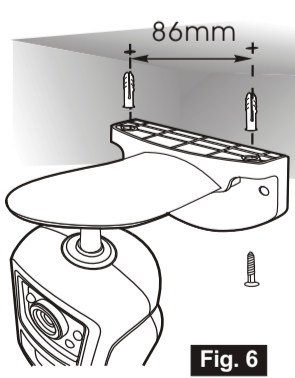

Fig. 6
2. Fix the camera to the wall or ceiling using the masonry plugs and fixing screws supplied. See Fig. 4 and Fig. 6.